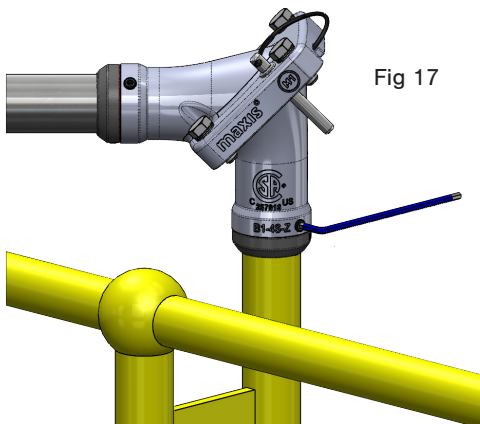

Fig 17
- ☐ Adjust the Maxis™ joint to desired direction and tighten the bottom grub screws firmly. (Fig 17)
- ☐ If required, the lowering position can be altered at this stage. If altering is required, loosen the bottom grub screws, reposition the direction and re-tighten grub screws firmly. Check lowering direction again, tighten bottom grub screws fully, refer torque settings. (Fig 17)